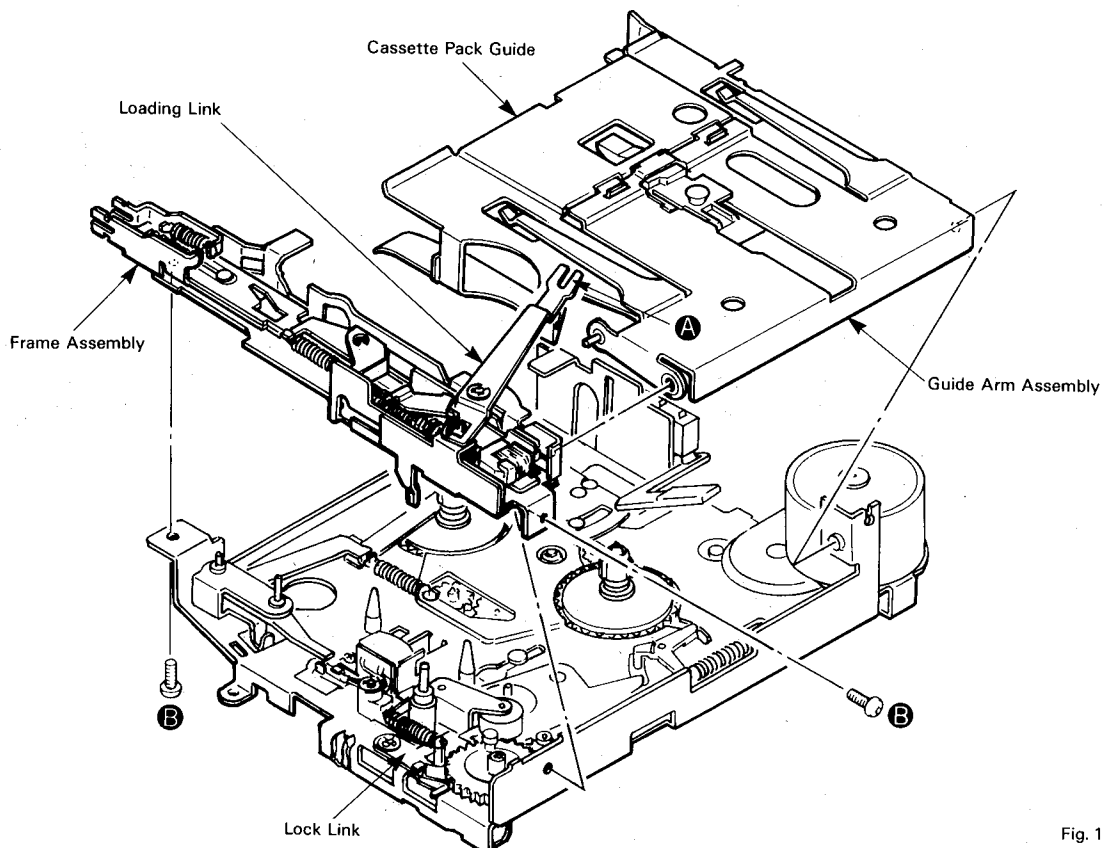

Fig. 1
① Head replacement
2. Remove the **A** portion of the Loading Link. (See Fig.1)
3. Remove the 2 screws **B** in Fig.1 and remove the Frame Assembly, Cassette Pack Guide and Guide Arm Assembly, and then replace the head.